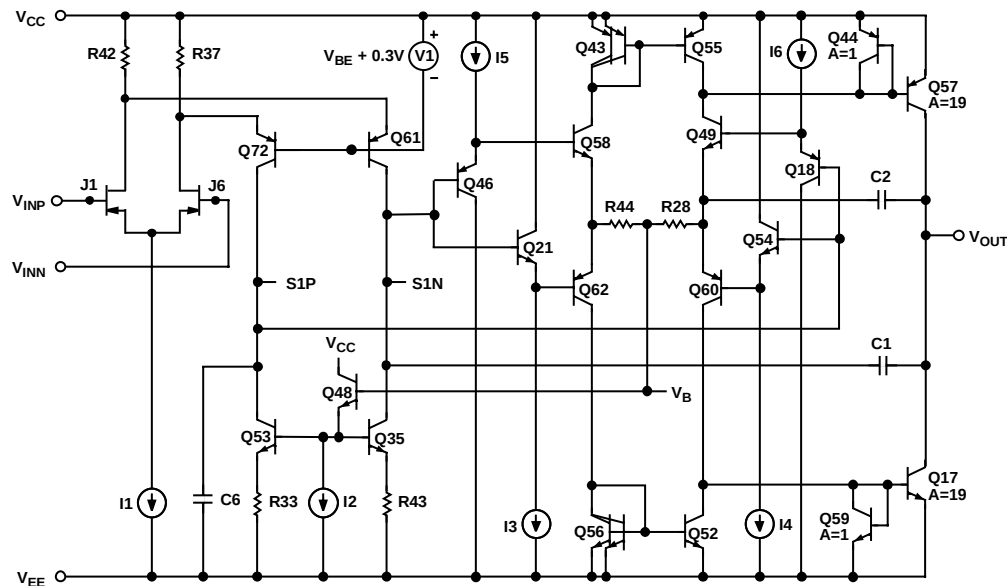

Figure 36. Simplified Schematic
The AD823 is fabricated on the Analog Devices proprietary complementary bipolar (CB) process that enables the construction of PNP and NPN transistors with similar  $f_T$ s in the 600 MHz to 800 MHz region. In addition, the process also features N-Channel JFETs, which are used in the input stage of the AD823. These process features allow the construction of high frequency, low distortion op amps with pico-ampere input currents. This design uses a differential output input stage to maximize bandwidth and headroom (see Figure 36). The smaller signal swings required on the S1P, S1N outputs reduce the effect of the nonlinear currents due to junction capacitances and improve the distortion performance. With this design harmonic distortion of better than  $-91$  dB @ 20 kHz into  $600\ \Omega$  with  $V_{OUT} = 4$  V p-p on a single 5 V supply is achieved. The complementary common emitter design of the output stage provides excellent load drive without the need for emitter followers, thereby improving the output range of the device considerably with respect to conventional op amps. The AD823 can drive 20 mA with the outputs within 0.6 V of the supply rails. The AD823 also offers outstanding precision for a high speed op amp. Input offset voltages of 1 mV maximum and offset drift of  $2\ \mu\text{V}/^\circ\text{C}$  are achieved through the use of the Analog Devices advanced thin-film trimming techniques.